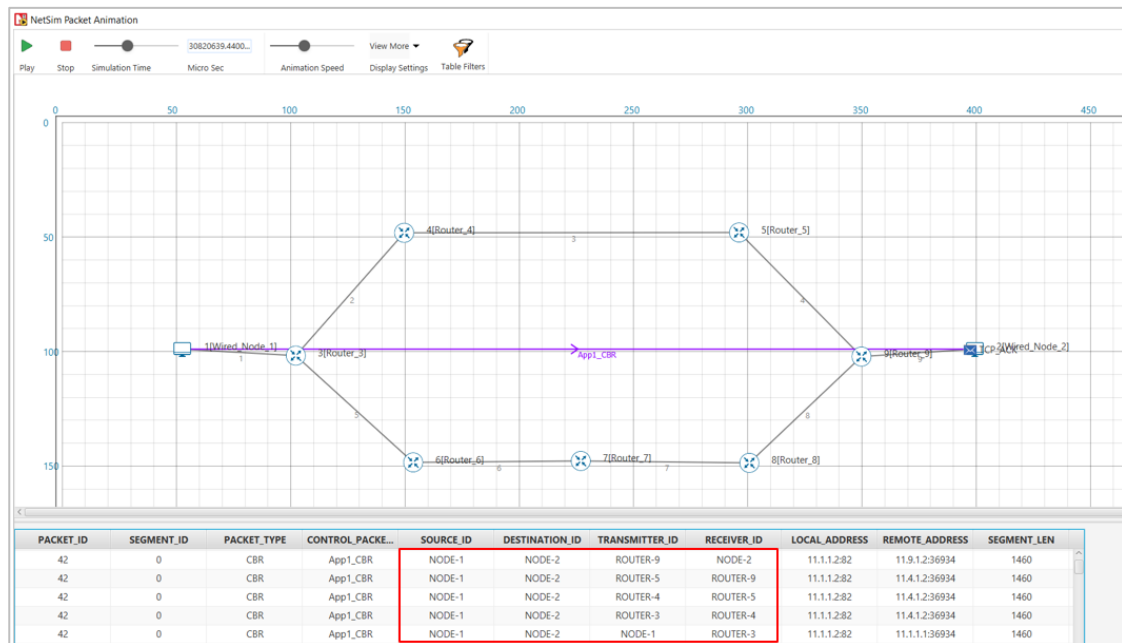

Figure 1-6: Animation window for without link failure
- The packets are routed to the Destination via, **N1 > R3 > R4 > R5 > R9 > N2** as shown below Figure 1-6.